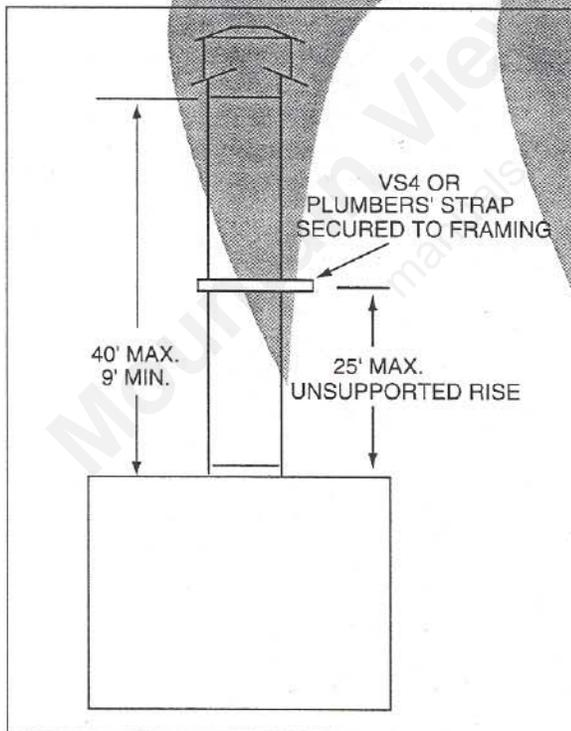

Figure 16
b. Vent Lengths. Various venting configurations are shown in Figures 16 and 17 from which maximum vent runs can be determined.